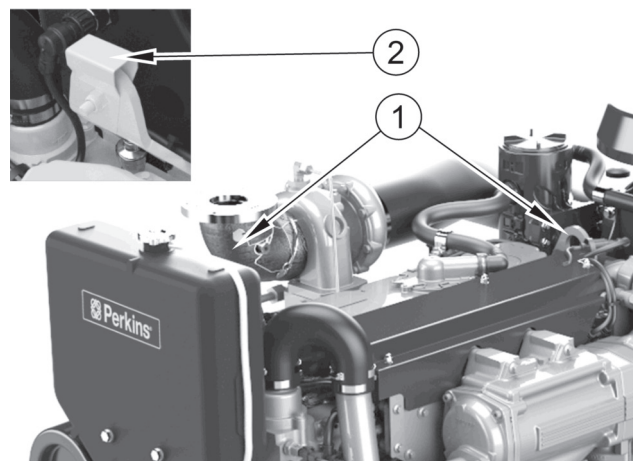

Figure 6
To lift the engine only, use the lifting eyes as shown in figure 6, item 1.
These lifting eyes have blanking plates fitted (figure 6 item 2), which must first be removed. Reinstall these blanking plates after use.